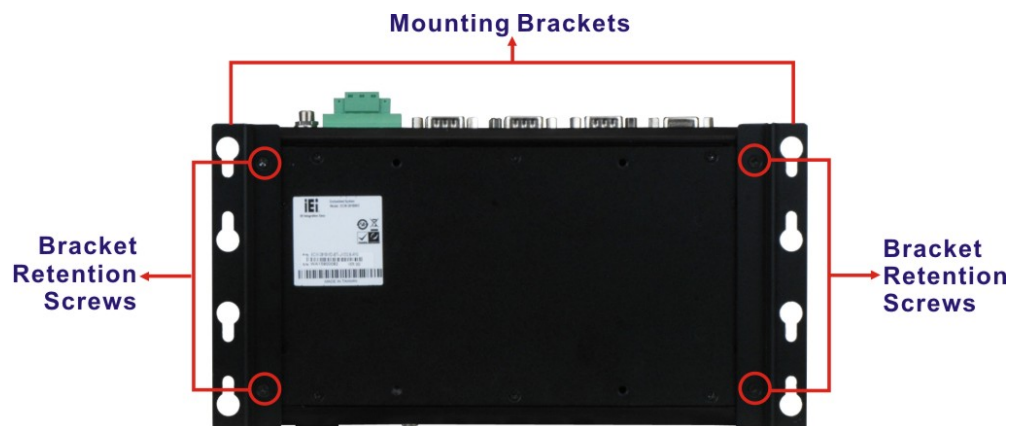

Figure 3-22: Mounting Bracket Retention Screws
Step 3: Secure the brackets to the system by inserting two retention screws (M3*5) into each bracket (Figure 3-22).